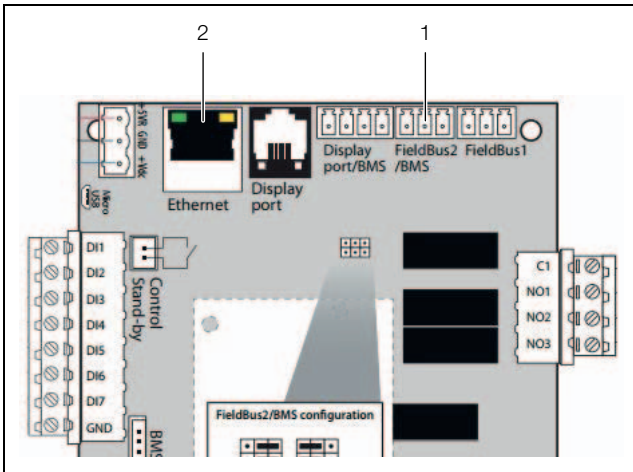

Fig. 22: Connectors
■ On the board use the "FieldBus2" connector (fig. 22, item 1) to connect the appliance to a monitoring device.
■ On the board use the "Ethernet" connector (fig. 22, item 2) to connect the appliance to a monitoring device via web pages.